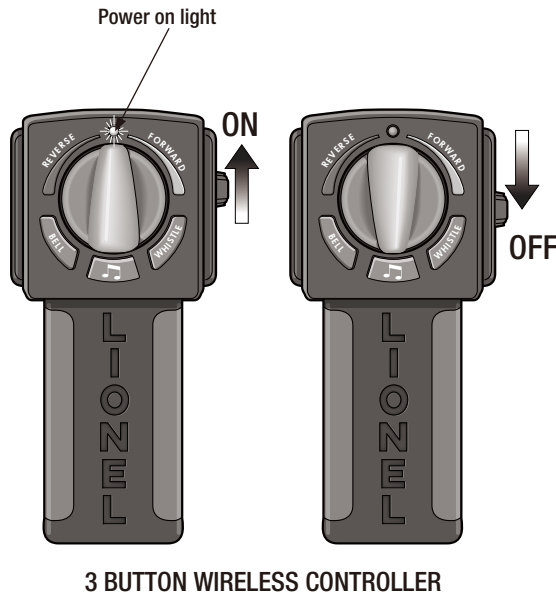

Figure 7. Using the wireless controller
Turn the power switch on the wireless controller to the down or OFF position when not in use. The LED at the top of the dial will go out to indicate the power is off. See Figure 7.
**T**urn your wireless controller to the ON position by sliding the button on the right side of the controller up. An LED on top of the dial will light to indicate the power is on (See Figure 7 on page 11). See Figure 8 on page 13 for button operations.